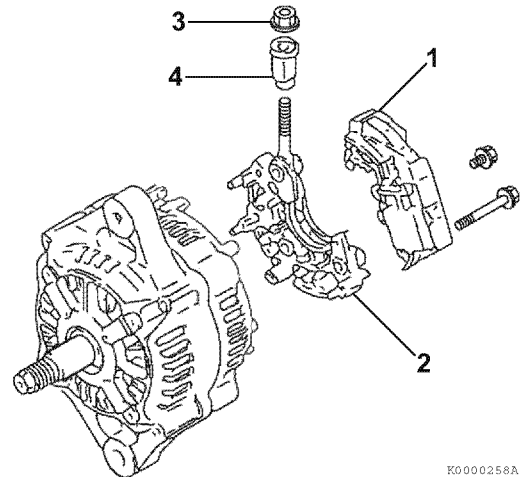

Figure 11-16
- Reinstall the insulation bushing (Figure 11-16, (4)) and nut (Figure 11-16, (3)).
- Reassemble the regulator assembly (Figure 11-16, (1)) to the holder (Figure 11-16, (2)).